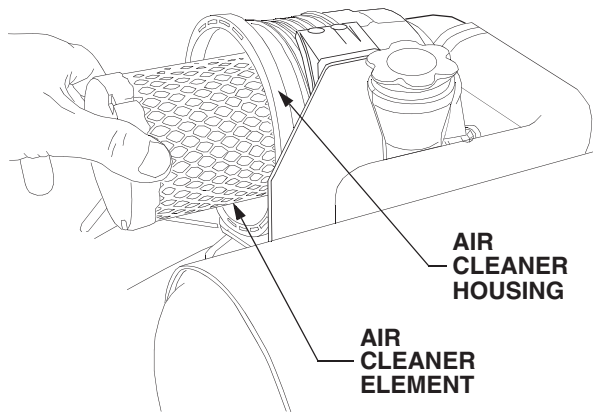

Figure 58
- Pull the air cleaner element from the housing. See Figure 58.